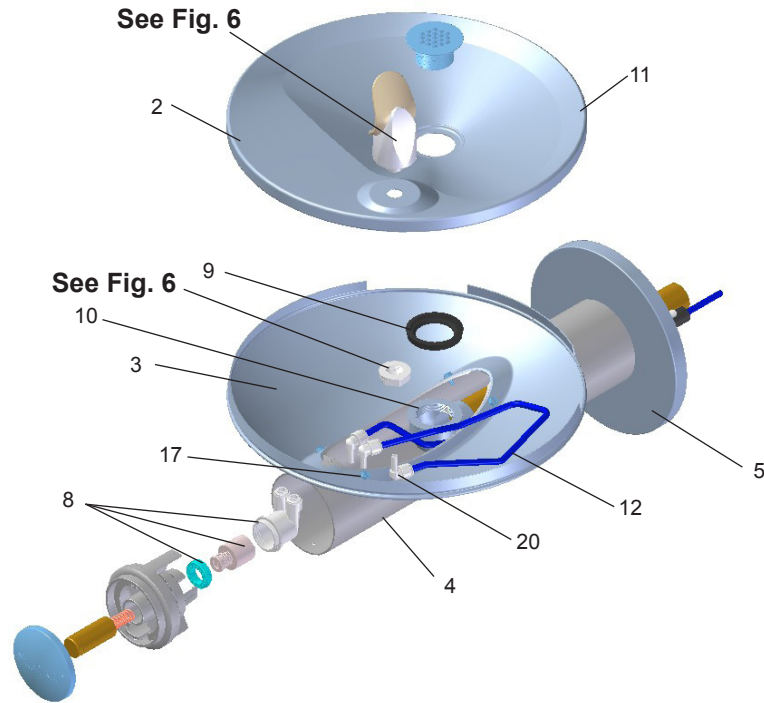

Figure 5 - Fountain Body Assembly
8. Install fountains with (8) 5/16-18 HHMS & (8) 5/16-18 nuts (provided) (Fig. 5). Connect the 1/4" water lines from each fountain to the remaining openings on the tee (cut lines to fit as needed). Connect the 3/8 polytube from the bottle filler into the opening on the tee.